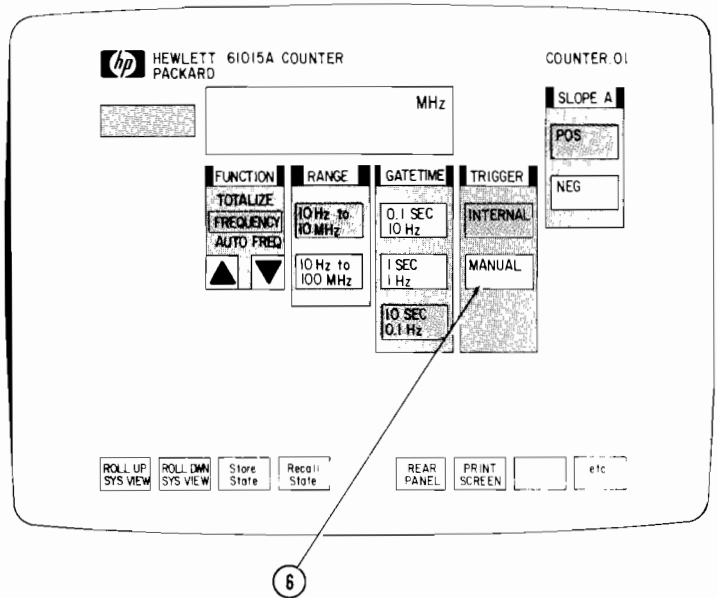

Figure 2-6. Select Manual Trigger Mode
Step 6 - Completing Step 5 causes the Counter to take 10 seconds for every measurement. The Counter is continuously taking frequency measurements and updating the display because INTERNAL trigger is the default setting for the TRIGGER switch. To make the Counter take a measurement on command, you have to put it in manual trigger mode by pointing to and selecting MANUAL. See Figure 2-6.